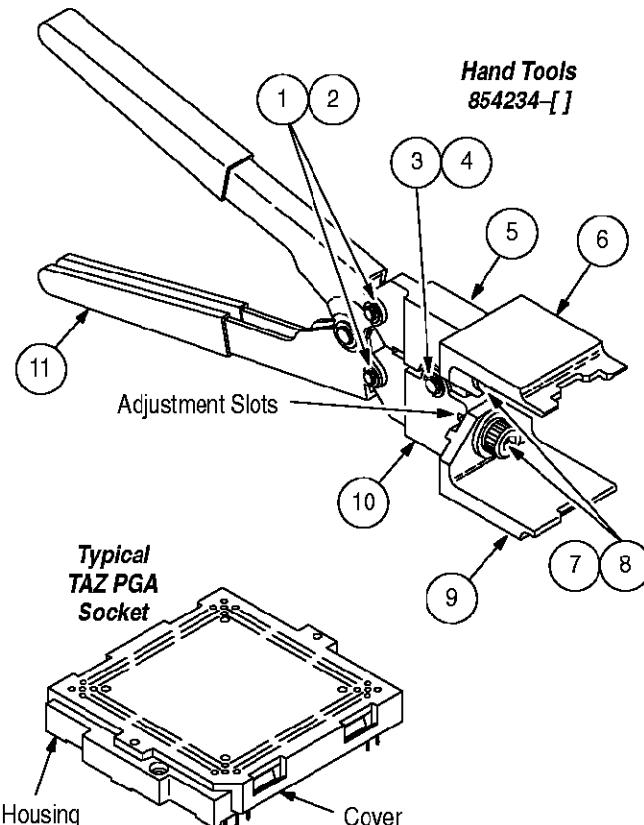

Figure 1
The AMP* Hand Tools 854234-1 and 854234-2 are used to open and close Tool Actuated ZIF (TAZ) Pin Grid Array (PGA) Sockets so PGA devices can be installed or removed. Figure 1 lists product part numbers. See AMP Application Specification 114-1068 and AMP Catalog 82172 for additional product information.
Replacement parts are listed in Figure 1. Order replacement parts through your AMP representative or call 1-800-526-5142, or send a facsimile of your purchase order to 1-717-986-7605, or write to:
- Removed superseded part number in Item 2, Figure 1, and replaced with 1-23619-6